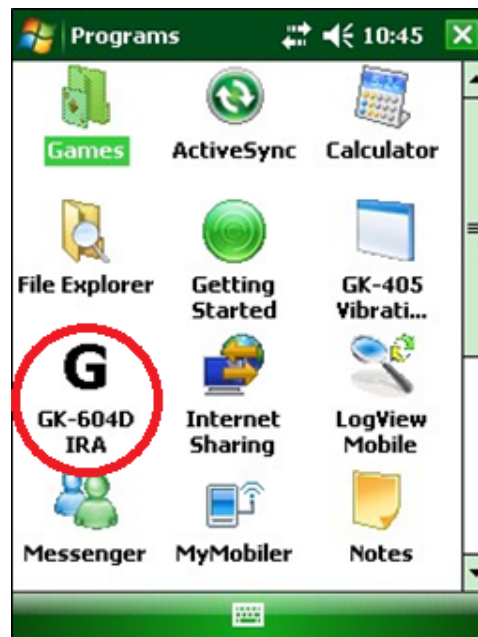

Figure 33 - GK-604D IRA Icon in Start->Program
- 6) The file, GK604D_Installer.CAB can be now deleted from the system root folder to free up memory. The GK-604D IRA is now installed and its icon should appear in “Start->Programs” (Figure 33).